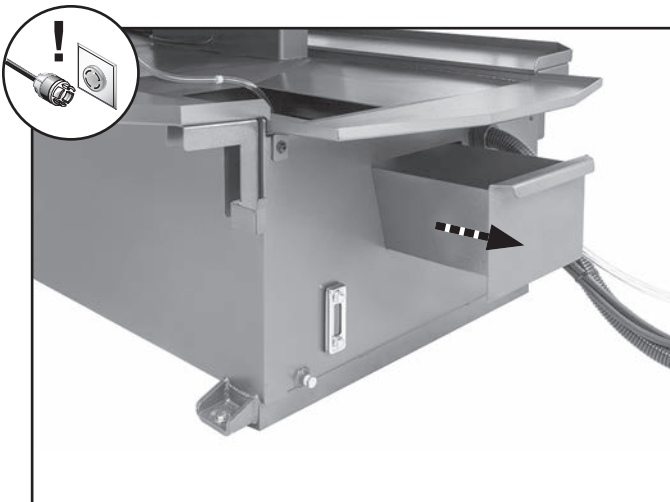

Figure 89. Removing chip collection drawer.
2. Remove chip collection drawer from machine base (see **Figure 89**) and clean drawer.